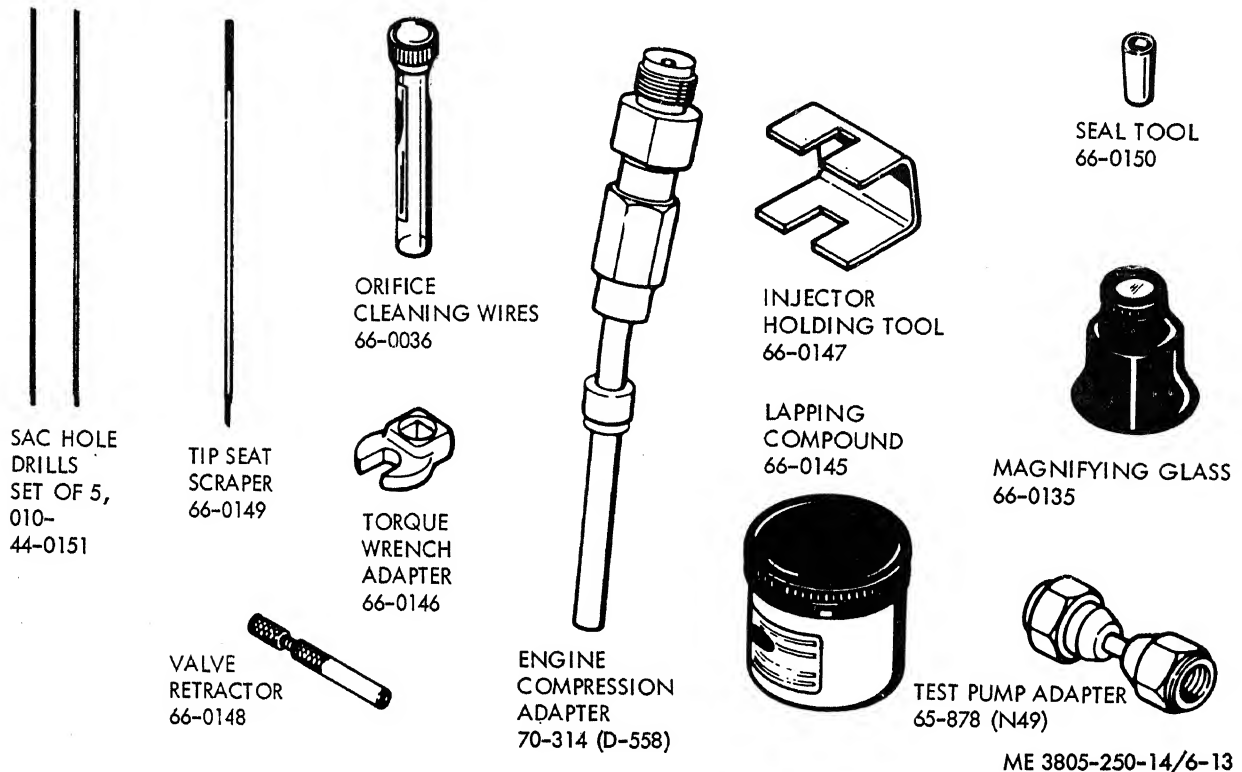

Figure 6-13. Fuel injector tool kit.
Note. The fuel injector tool kit (fig. 6-13) is used in
(1) Place all components in solvent to remove carbon deposits.
(2) Clean the injector body and tip with a brass wire brush. Clean carbon from spray orifices with 0.008, 0.009, and 0.010 inch diameter cleaning wires (fig. 6-13). Secure the wire in the pin vise with the wire protruding  $1/32$  inch to prevent the wire from breaking off in the sac hole.
(3) Replace injector if any orifices are chipped at the edges or eroded so that spray pattern is affected.
(4) Clean the seat in the tip with scraper tool (66-0149).
(5) Insert sac hole drill (66-0151) into the sac hole. Rotate to remove deposits.
(6) Inspect the valve for pitting or erosion which could cause leakage.
(7) Inspect the adjusting screws for thread damage and replace if necessary.
g. Lapping. Lap the injector valve to the guide as follows. Lapping tools are a part of the fuel injector tool kit, figure 6-13.
(1) Disassemble the injector and flush the nozzle with solvent.
(2) Place a small amount of lapping compound on the valve seat and insert the valve onto the body. Grip the top of the valve with the retractor.
(3) Rotate the valve by hand, first clockwise, then counterclockwise a total of 3 to 5 revolutions.
(4) Flush the body with solvent and reassemble the injector.
(5) Retest the injector (subpara e). If the seat is tight but chatter is lost, replace the injector.